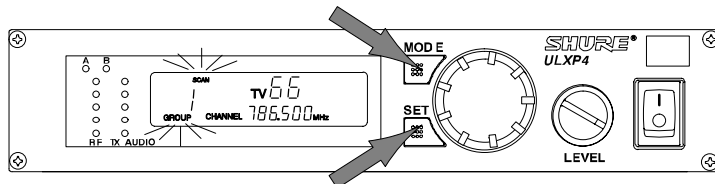

FIGURE 37
1. Hold down the receiver SET button and press the MODE button once. The words GROUP and SCAN will flash on the display. Refer to Figure 37.